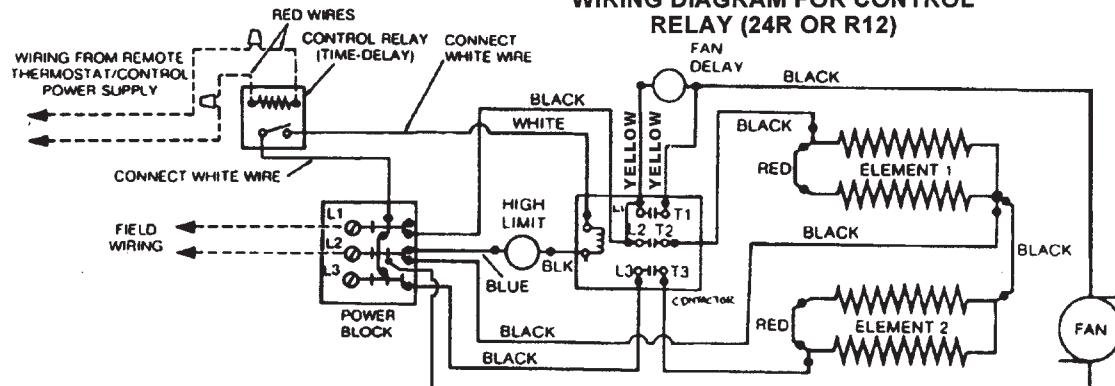

Figure 5
- To wire the relay, refer to the wiring diagram, Figure 5, and proceed as follows: